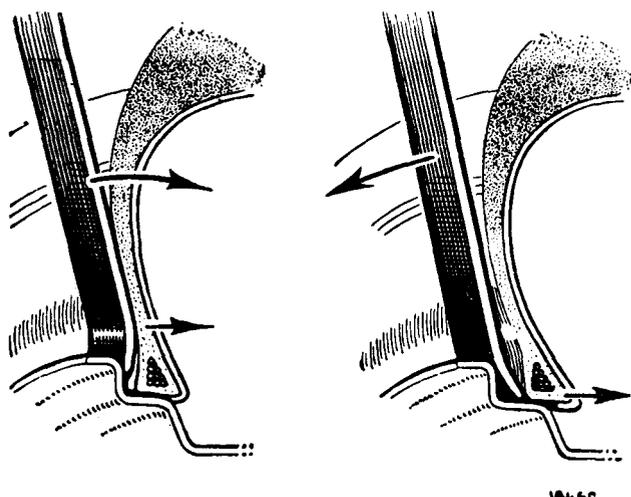

Fig. O.4
*In cases where difficulty is encountered in moving the bead into the well-base the tyre lever should be inserted between the rim edge and the bead as indicated in Fig. O.4 and the lever pushed towards the tyre as indicated. A second tyre lever should now be inserted next to the first in the space between the rim edge and the bead, with its curved end against the rim, and pulled outwards*